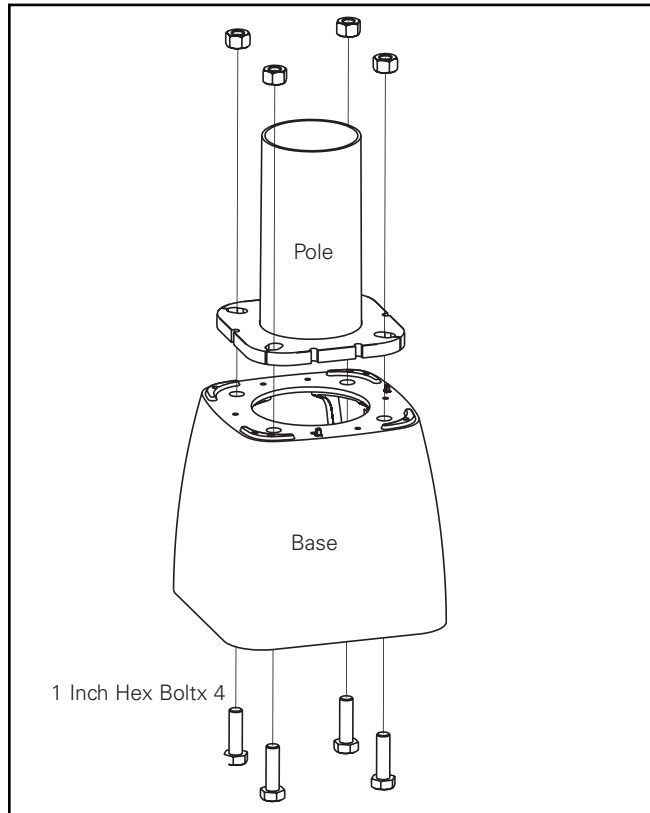

Figure 4. Pole Mount Detail
1. Install shroud one onto the base with three 1/4-20 screws and washers supplied. (Figure 4.)
4. Use three 1/4-20 screws and washers to install shroud two into place. (Figure 4.)